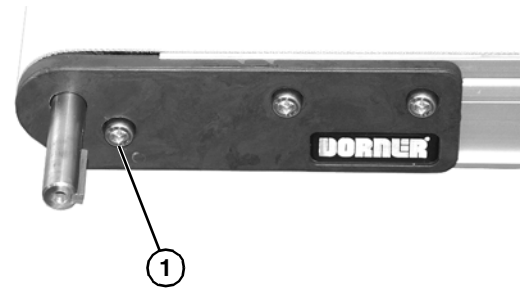

Figure 10
4. Install M6x8 socket head screw (**Figure 10, item 1**) and washer.